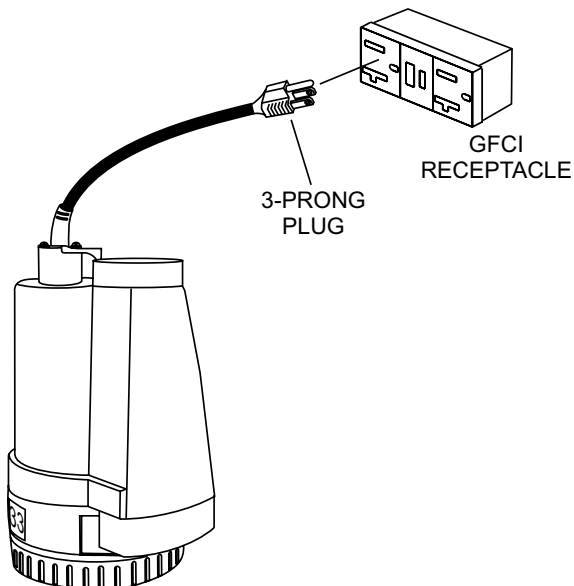

Figure 5. Connecting the Power
5. If all of the pump's electrical requirements have been met, insert the power plug (Figure 5) on the pump into the power source receptace. Make sure the extension cord is of proper size, see Table 3. It is recommended that the pump's power cord be plugged into a GFCI receptacle to prevent the possibility of electrical shock.